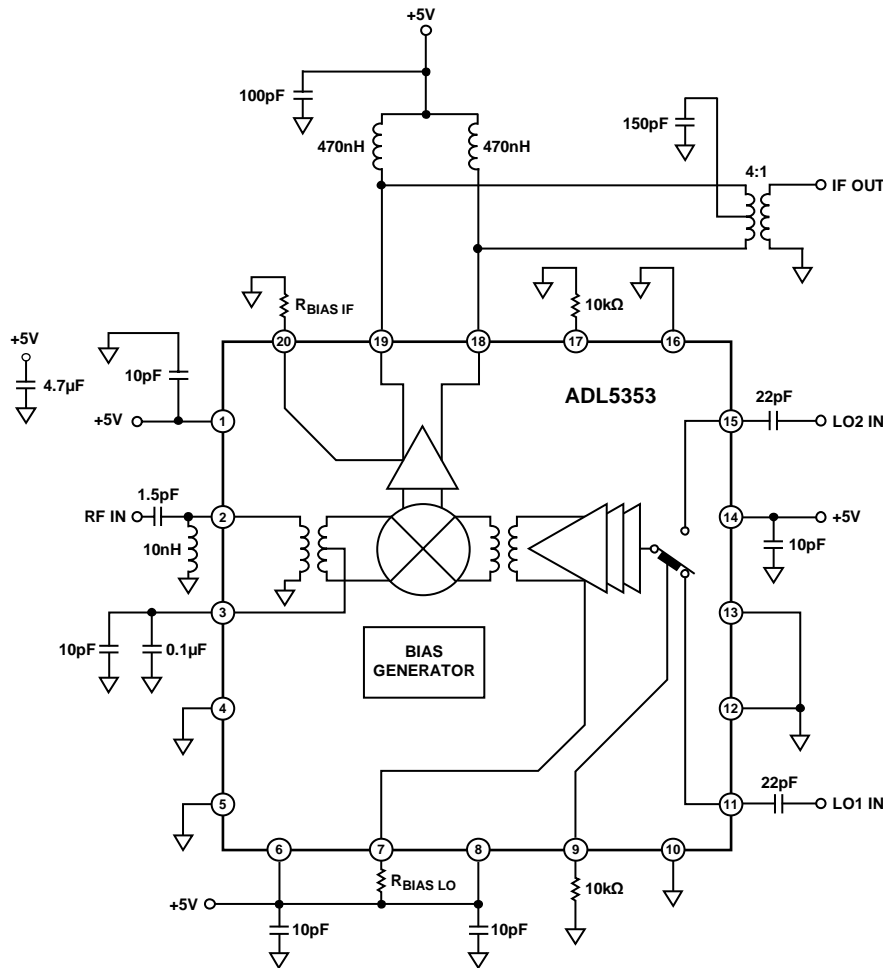

Figure 51. Typical Application Circuit
The ADL5353 mixer is designed to downconvert radio frequencies (RF) primarily between 2200 MHz and 2700 MHz to lower intermediate frequencies (IF) between 30 MHz and 450 MHz. Figure 51 depicts the basic connections of the mixer. To prevent nonzero dc voltages from damaging the RF balun or LO input circuit, ac couple the RF and LO input ports. The RFIN matching network consists of a series 1.5 pF capacitor and a shunt 10 nH inductor to provide the optimized RF input return loss for the desired frequency band IF port.
need for a transformer. This results in a voltage conversion gain that is approximately 6 dB higher than the power conversion gain, as shown in Table 3. When a 50 Ω output impedance is needed, use a 4:1 impedance transformer, as shown in Figure 51.